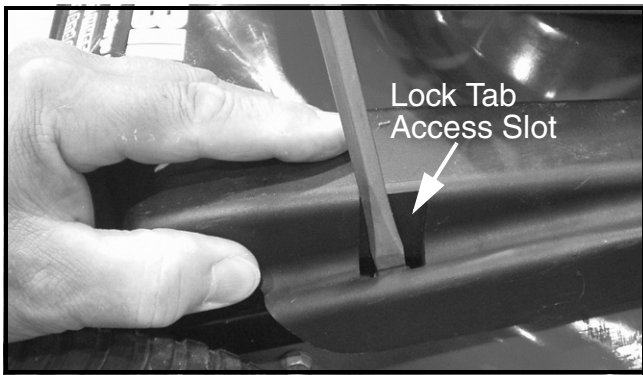

FIGURE 2
6. If so equipped, remove the cross bracket's (front-to-rear height adjuster bar) plastic cover by releasing the two lock tabs. See Figure 2.